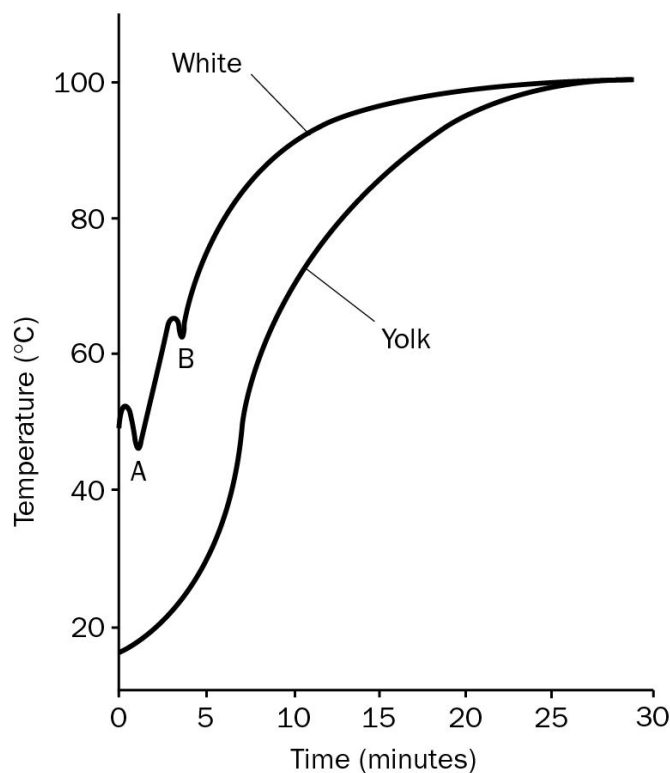

Figure 2.2: Internal Temperature of an Egg During Boiling.
A graph of the results is shown in Figure 2.2. The lower "wiggle" (A) in the curve for the temperature of the white is an artifact, arising from moving the thermocouple after the measurements had started. The upper "wiggle" (B), however, has real meaning. It occurs at the temperature (and time) when the white sets, and setting takes energy, therefore the temperature of the white stays constant (if energy is coming in by conduction as fast as it is being used to rearrange molecules) or even drops (if more energy is required to rearrange the albumin molecules than is available from conduction).